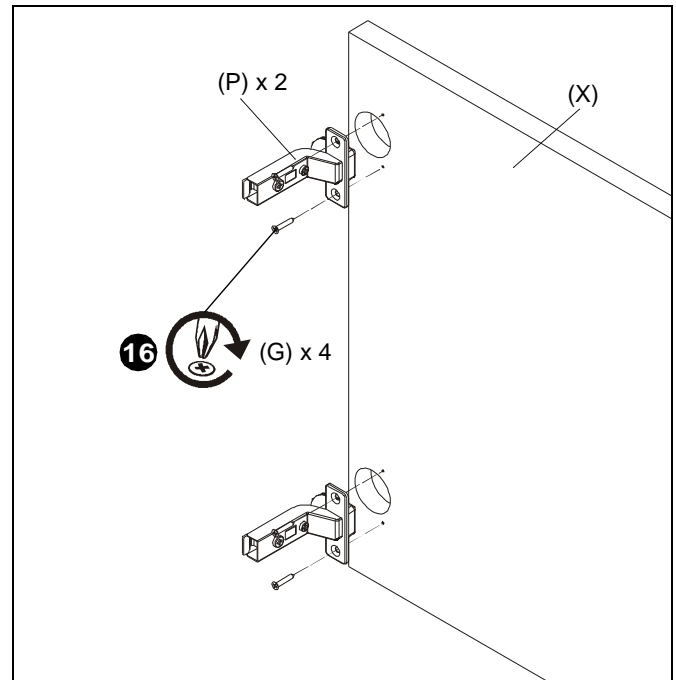

Figure 8
16. Use four #5 x 3/8" flat head wood screws (G) to secure two clip-on hinges (P) to back door (X). (See Figure 8)